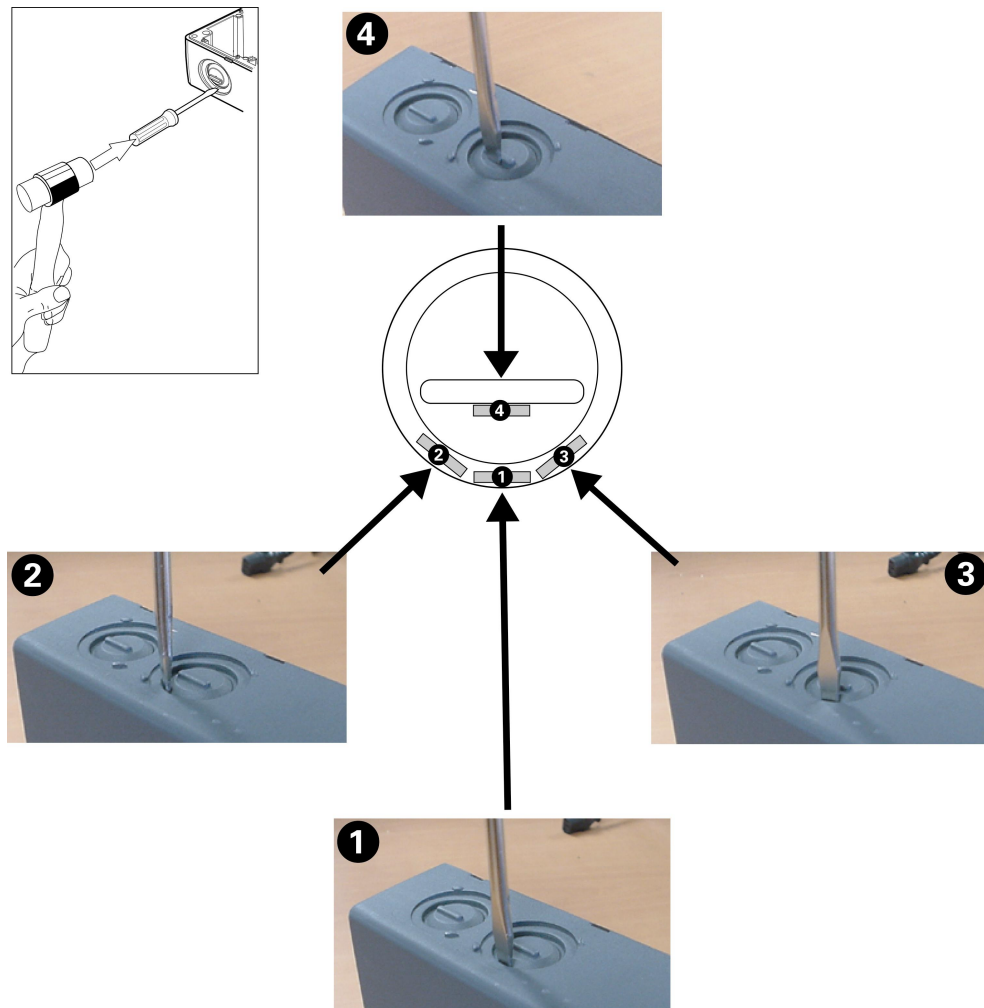

Figure 4-3 Gland Plate or "knockout" Removal
5. Using a hammer and a flat-head screwdriver (as shown in Figure 4-3 on page 35) strike the gland plate or “knockout”.